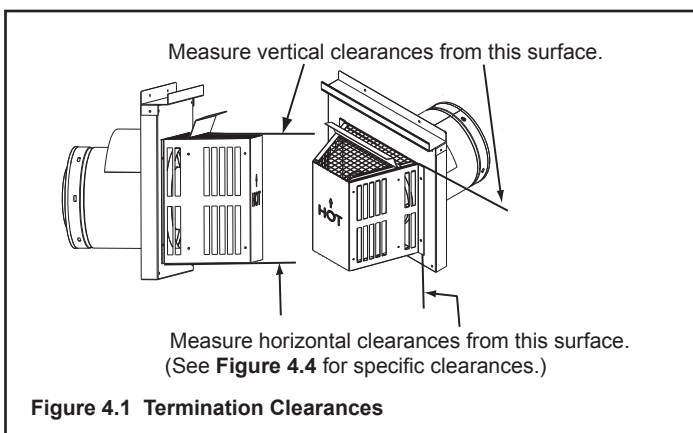

Figure 4.1 Termination Clearances
- Horizontal terminations are measured to the outside of the mounting surface (flange of termination cap). See **Figure 4.1** on page 8.